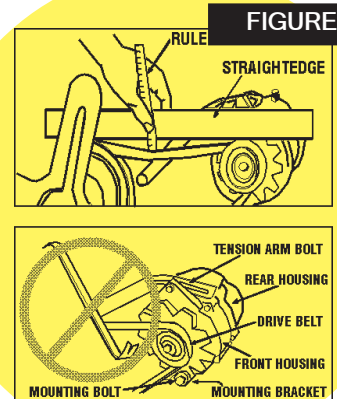

FIGURE 1
- ◆ Adjust belt tension and tighten belt tension bolt as illustrated in Figure 1. Do not use heavy tools to pry on alternator case; hand pressure is adequate. Most serpentine belt system use a spring loaded automatic belt tensioner. When an automatic tensioner system is not installed as is common with "V" belts, tension the belt to the engine manufacture's specification. This is typically half an inch of deflection.